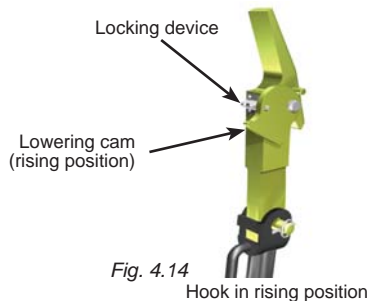

Fig. 4.14
- 2- Lock the lowering cam on both the cylinder hook and the secondary hook by sliding each locking device latch toward the cam and locking it (fig. 4.14).